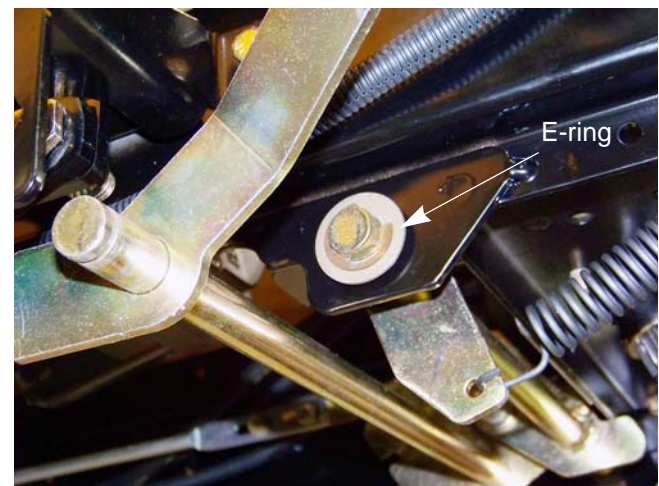

Figure 5.13
- 5c. Remove the E-ring and washer(s) from the right side of the brake pedal shaft. See Figure 5.13.